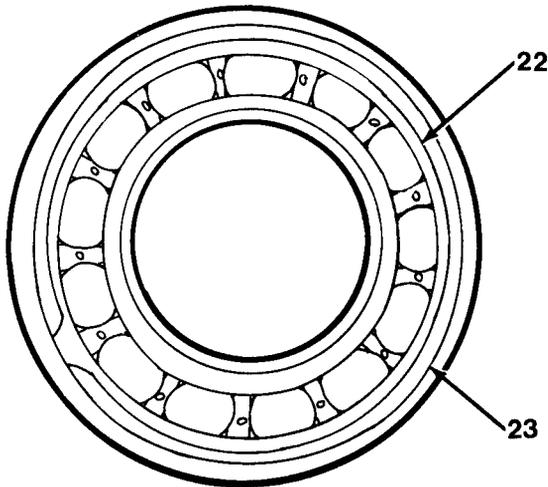

Figure 11-9
9. Install snap ring (23) onto bearing (22, Figure 11-9).